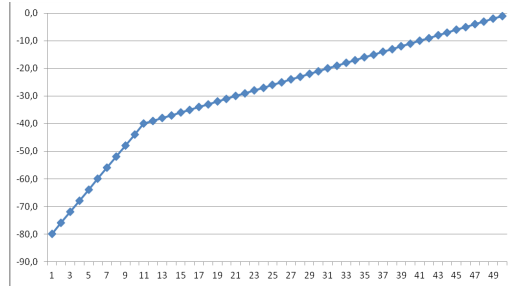

fig. 1
1. Volume Scale #1 – This setting is thought for general loudspeaker (fig. 1)(default)